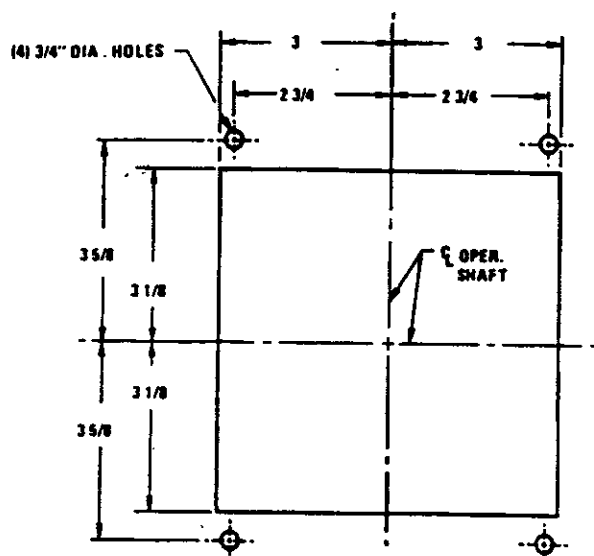

Fig. 14
- b. If it has not already been done, cut opening and drill or punch four 3/4" diameter holes in left side of enclosure per pattern shown in Fig. 14. (The same information appears on direct drive handle Dwg. S-20149).